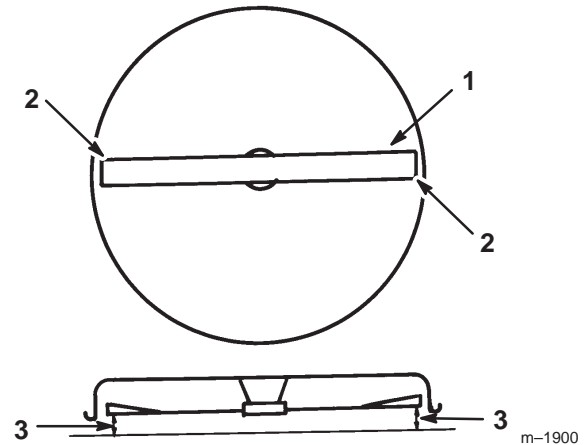

Figure 47
4. Carefully rotate the blade(s) side to side (Fig. 47). Measure between the outside cutting edges and the flat surface (Fig. 47). If both measurements are not within 3/16 in. (5 mm), an adjustment is required; refer to steps 5 and 6.